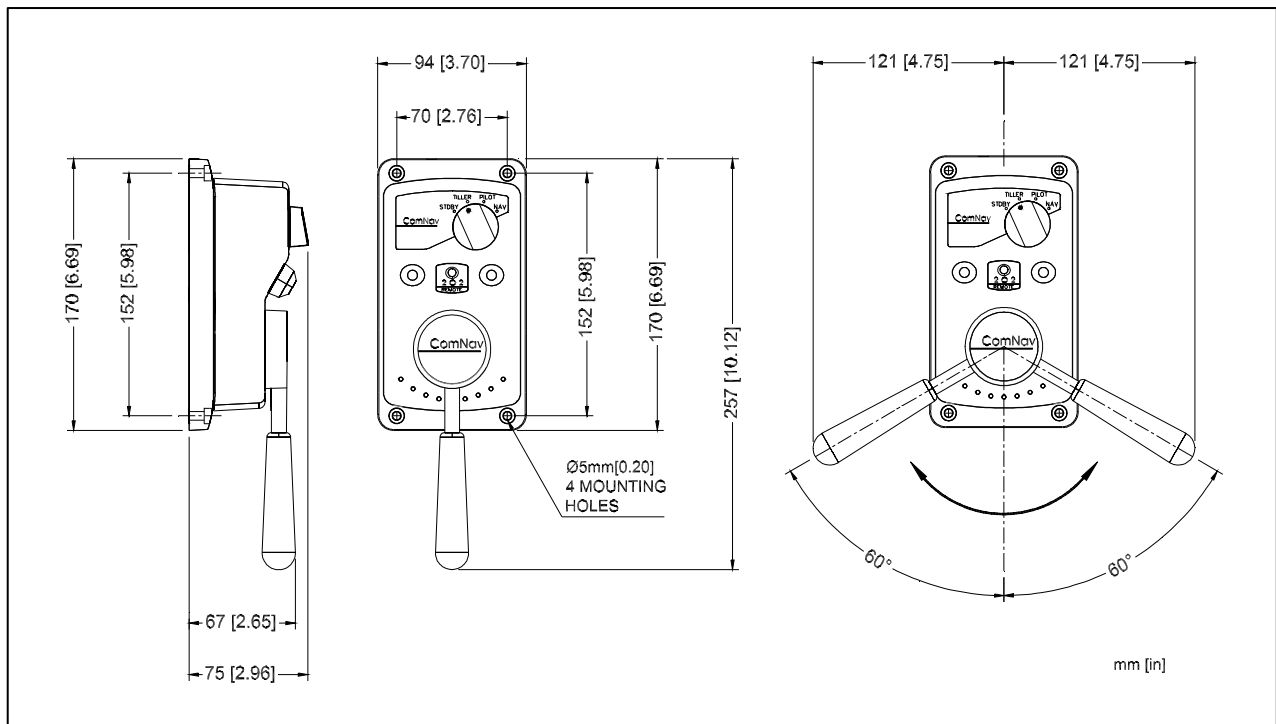

Figure 1 – Detail Dimensions for TS-202 FFU Lever Remote
Note: See Figure 1 for Detail Dimensions of FFU
1. Place the FFU in the desired location. Mark the center position of the four mounting holes and approximate location for the cable through panel (see Figure 1 for Detail Dimensions).
1. Place the FFU in the desired location. Mark the center position of the four mounting holes. (See Figure 1 for Detail Dimensions).